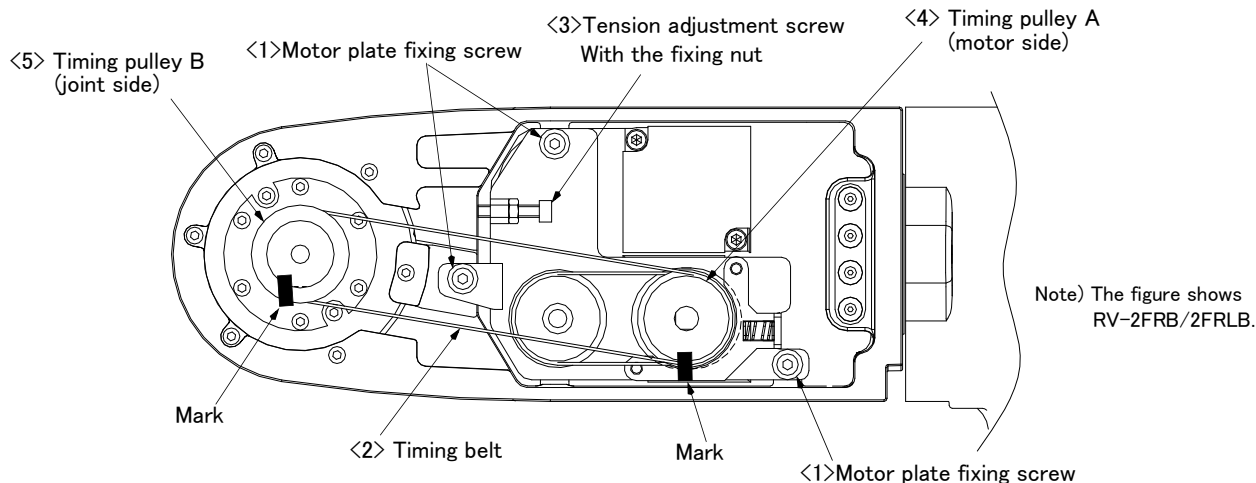

Fig.5-16 : Inspection and replacement of J6 axis timing belt (RV-2FR series)
The reference figure at inspection and replacement of the timing belt is shown in Fig. 5-16.
- 3) Make marks on the timing belt <2> and timing pulleys <4> and <5> with a felt-tip pen as shown in Fig. 5-16 so that the engagement of the timing belt <2> and timing pulleys <4> and <5> does not deviate.